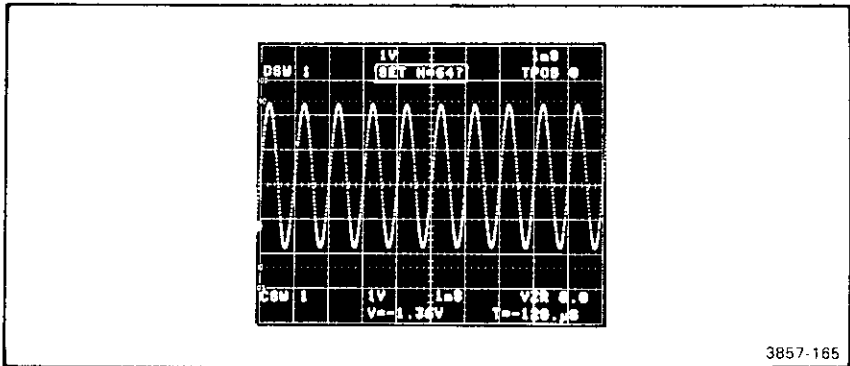

Figure 2-64. SET N readout prompt.
**SET N** is used with the **AVE N** and **ENV N** modes to **AVERage** or **ENVELOpe** an incoming waveform **N** number of times. With this key, you can set the value of **N** to: 8, 16, 32, 64, 128, or 256. The **SET N** key illuminates when pressed and "SET N=(current value of N)?" appears in the display as shown in Figure 2-64. Press the **SET N** key again and the value of **N** will increment to the next higher value. If the **SET N** key is pressed and held, the value of **N** will cycle through the above sequence of numbers in the display. Simply release the key when the desired value of **N** appears. **SET N** is terminated by selecting any other key and the value of **N** is retained.